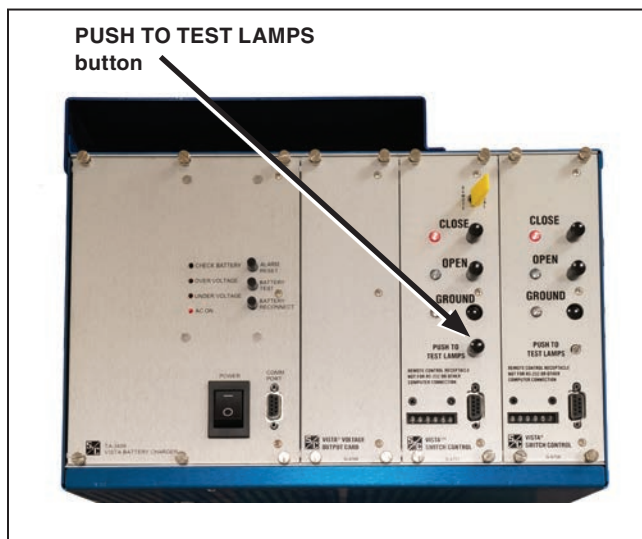

Figure 69. Testing the LEDs and performing test operations.
STEP 2. Verify all LEDs are functional by pressing the PUSH TO TEST LAMPS pushbutton on each control board. See Figure 69.